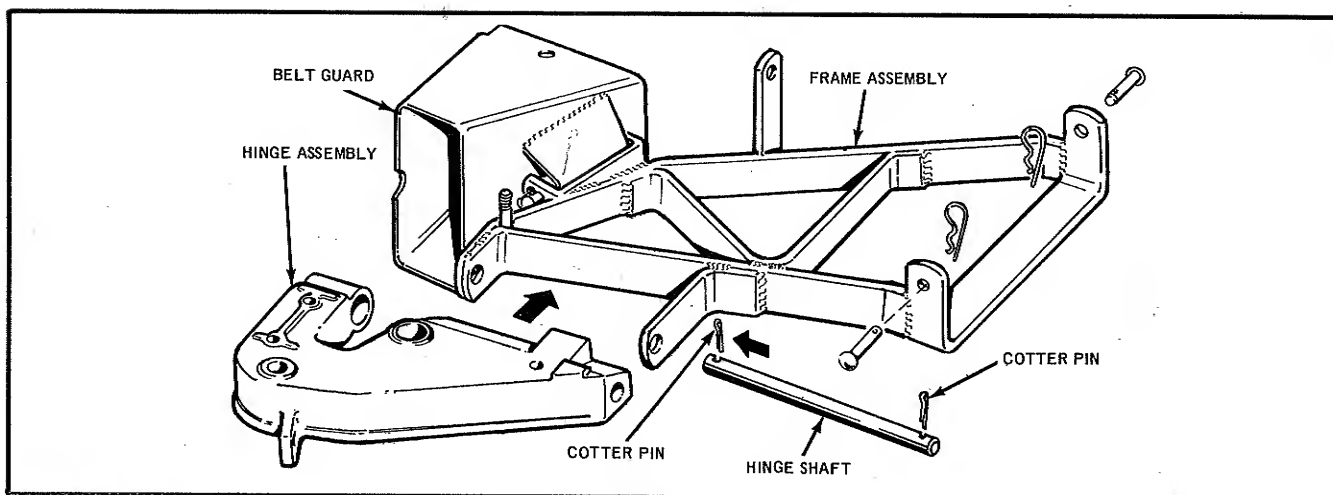

FIGURE 1
1. Position the hinge assembly and drive group between the mounting brackets of the frame assembly and insert the hinge shaft and secure with cotter pins. Refer to Figure 1.